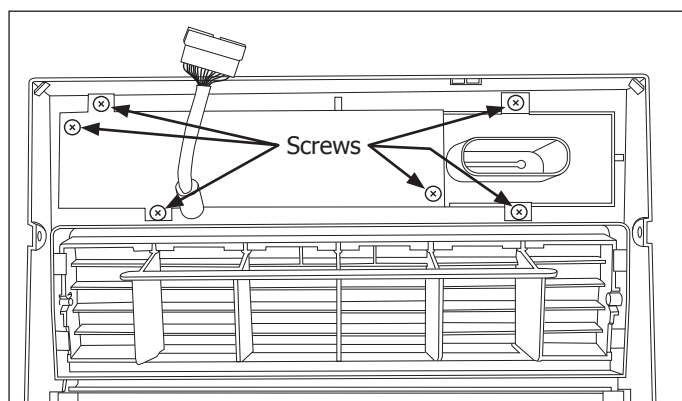

Figure 4-75.
3. Extract the six screws securing user interface to front panel then lift user interface off front panel. (See Figure 4-75)